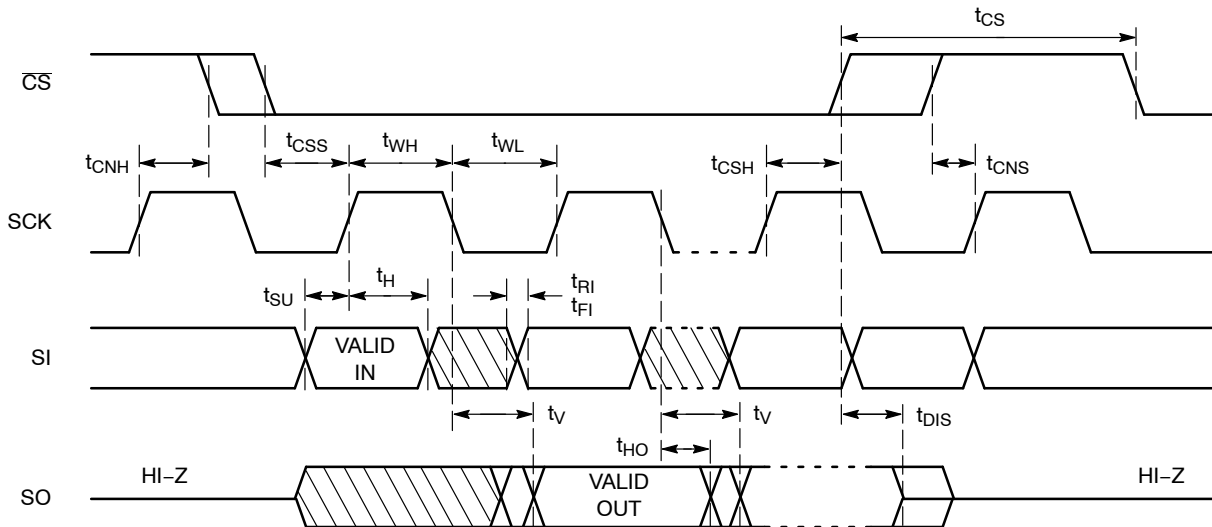

Figure 2. Synchronous Data Timing
9. **All Chip Select (CS) timing parameters are defined relative to the positive clock edge (Figure 2). t_{CSH} timing specification is valid for die revision C and higher. The die revision C is identified by letter "C" or a dedicated marking code on top of the package. For previous product revision (Rev. B) the t_{CSH} is defined relative to the negative clock edge.**
After a high to low transition on the $\overline{CS}$ input pin, the CAT25256 will accept any one of the six instruction op-codes listed in Table 10 and will ignore all other possible 8-bit combinations. The communication protocol follows the timing from Figure 2.